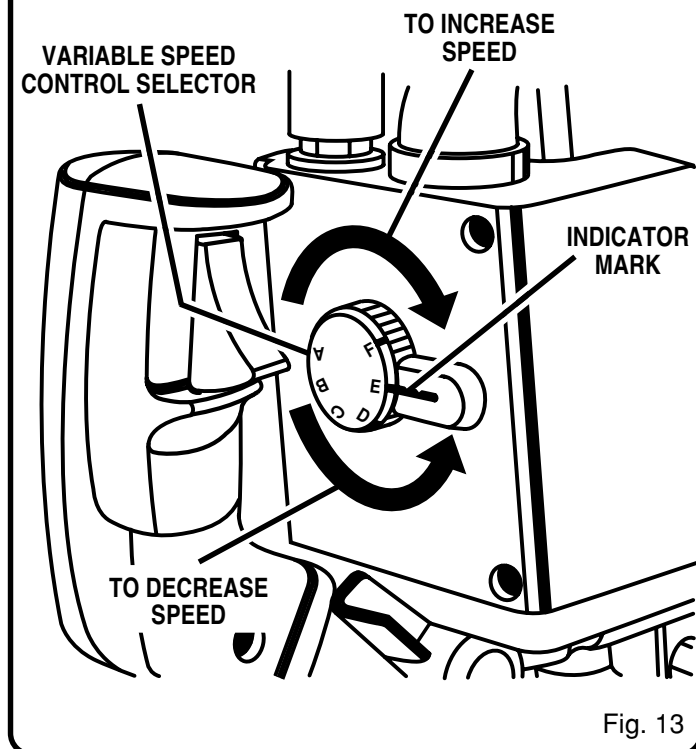

Fig. 13
See Figure 13.
The speed selection chart shown gives suggested speed settings based on the diameter of the cutter and the type of material being routed. See Figure 13.
- Choose the desired speed from the speed selection chart. See Figure 13.
In general, if the material being cut is hard, the cutter size is large, or the depth of cut is deep, then your router should be run at slower speeds. When these situations exist, turn the variable speed control selector until the desired speed is reached. See Figure 13.